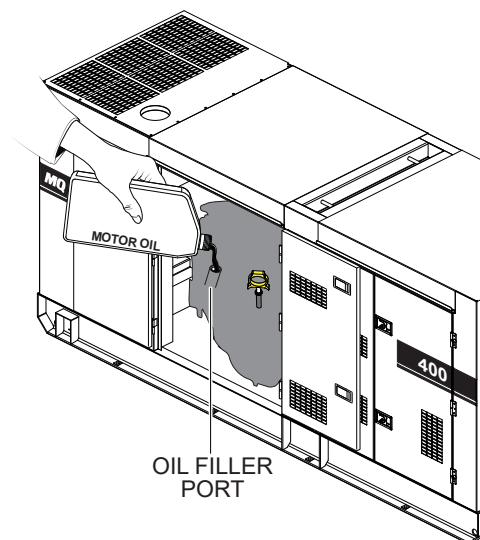

Figure 28. Engine Oil Filler Port
5. If the engine oil level is low (Figure 27C), remove the cap from the **oil filler port** (Figure 28) and fill to a safe operating level (max) as indicated by the dipstick (Figure 27A). Fill with the recommended oil type listed in Table 10. Maximum oil capacity is 15.1 gallons (57 liters).